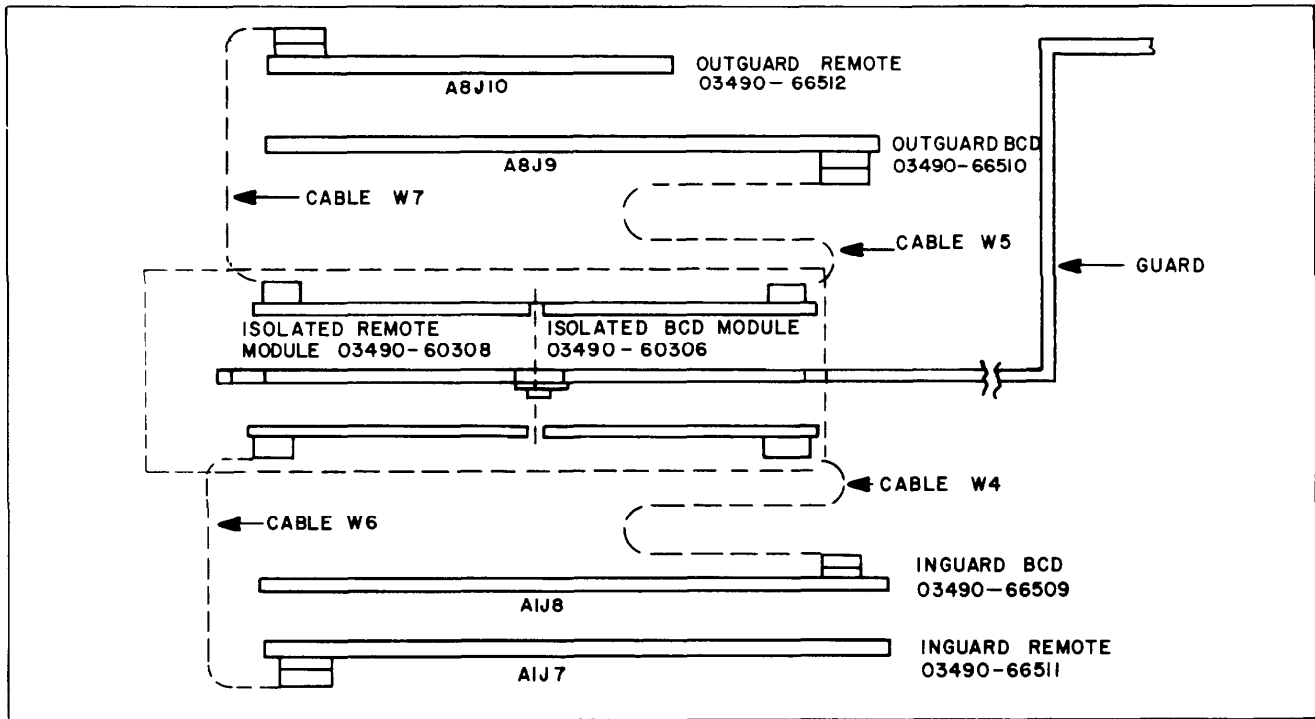

Figure 2-4. Installation of Isolated BCD Output and Remote Options.
- c. Install 03490-60306 Isolated BCD Module in the right opening in the instrument guard using screws provided (see Figure 2-4).
- d. If Isolated Remote (11122A) is not installed at this time, install cover plate 03490-04117 over the left opening in the guard. If Isolated Remote is to be installed, place the 03490-60308 Isolated Remote Module in the opening to the left of the BCD Module (see Figure 2-4).
- e. Insert the Isolated BCD Inguard PC Assembly 03490-66509 into Connector A1J8 and install Cable W4 between this Assembly and the inguard side of the Isolated BCD Module (see Figure 2-4).
- f. Insert the Isolated BCD Outguard PC Assembly 03490-66510 into Connector A8J9 and install Cable W5 between this Assembly and the outguard side of the Isolated BCD Module (see Figure 2-4).
- c. Install 03490-60308 Isolated Remote Module in the left opening in the instrument guard using screws provided (see Figure 2-4).
- d. If Isolated BCD (11121A) is not installed at this time, install cover plate 03490-04117 over the right opening in the guard. If isolated BCD is to be installed, place the 03490-60306 Isolated BCD Module in the opening to the right of the Remote Module (see Figure 2-4).
- e. Remove the 03490-66504 Inguard Remote Jumper Board and insert the Isolated Remote Inguard PC Assembly 03490-66511 into Connector A1J7 and install Cable W6 between this assembly and the inguard side of the Isolated Remote Module (see Figure 2-4).
W7 between this assembly and the outguard side of the Isolated Remote Module (see Figure 2-4).